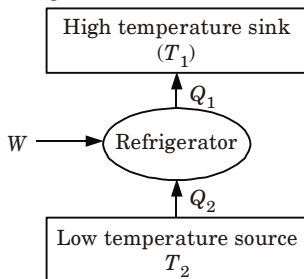

Fig. 2.2.2. The working principle into the cold space of the refrigerator.
4. The desired effect of a refrigerator, under a steady state, is to pump out the heat in the same rate as is infiltrating into the system (Q_2). And in order to do so, the refrigerator or an air conditioner takes up W amount of external work (Fig. 2.2.2).